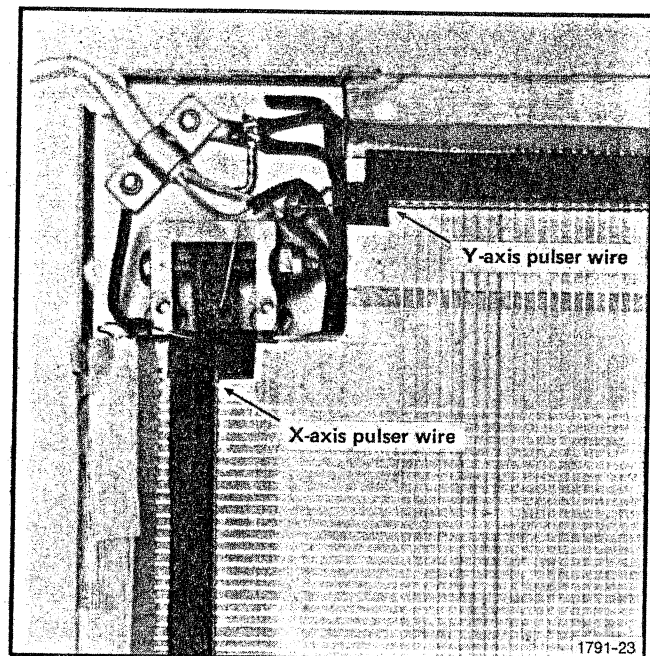
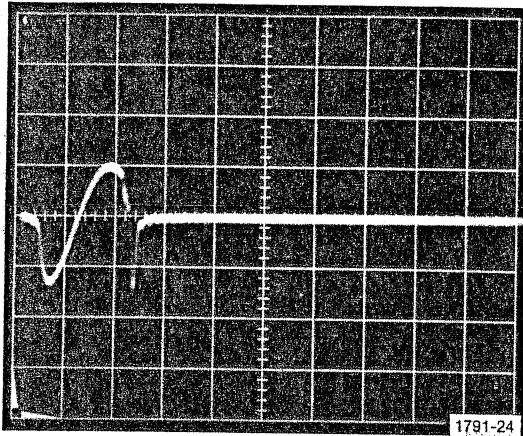
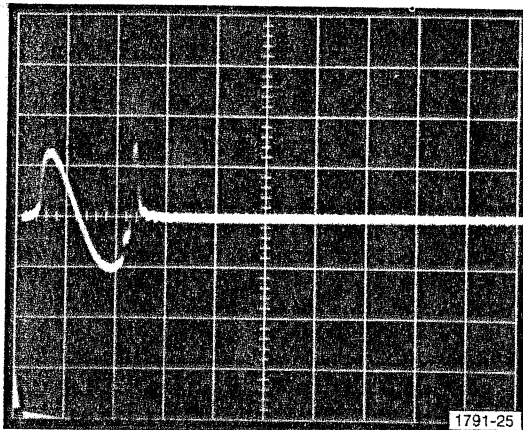

Fig. 4-5. Pulser wire locations.
Fig. 4-6. X-axis wire pulsing waveform.
Fig. 4-7. Y-axis wire pulsing waveform.
2. Connect an oscilloscope probe to the X-axis pulser wire at the upper left corner of the tablet (Fig. 4-5), and connect another probe to trigger from the rising edge of the FIREX pulse (J231-7 on the Tablet Control card). Set the oscilloscope to 10 V/Div, 1 μ s per division. The displayed waveform should resemble that in Fig. 4-6.
3. Repeat step 2 for the Y-axis pulser wire (Fig. 4-5), triggering from the FIREY pulse (J231-6). The displayed waveform should resemble that in Fig. 4-7.